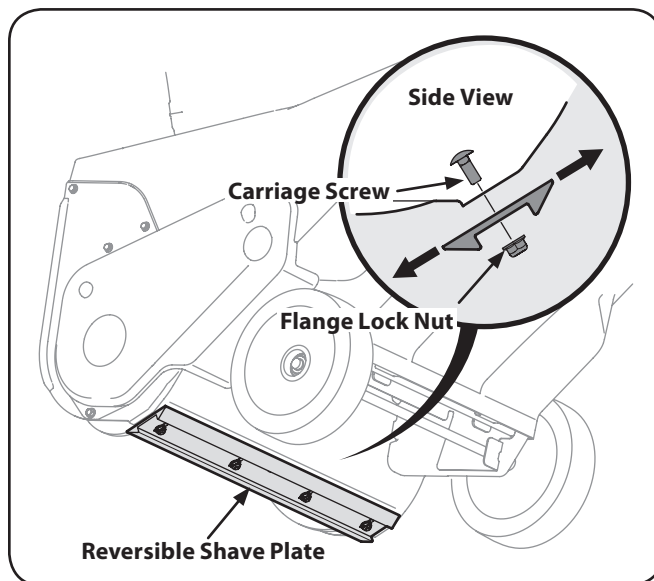

Figure 6-1
3. Loosen the four flange lock nuts and carriage screws which secure the shave plate to the housing. See Fig. 6-1. Move the shave plate to the desired position and retighten the nuts and bolts securely.